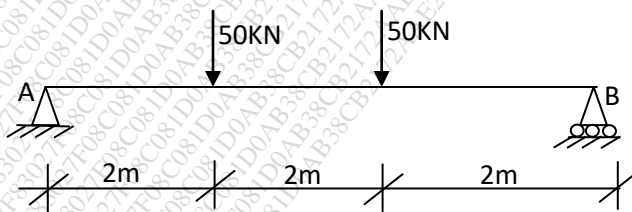

Figure 4
- Q.4 Analyse the beam as shown in fig.4 method using Macaulay's method and find maximum slope and deflection. $E = 200\text{GPa}$, $I = 80 \times 10^{-6} \text{m}^4$. 15